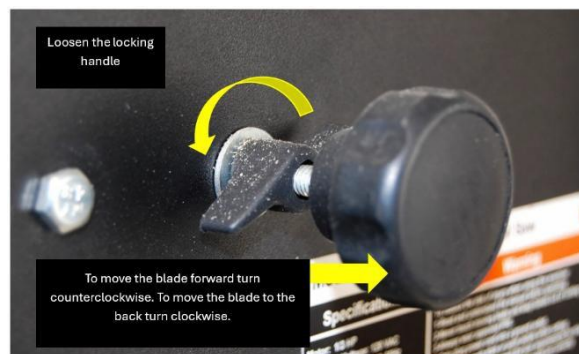

Figure 7: Adjusting the Blade Tracking.
See figure 7 below.
- 3- Loosen the locking knob as shown in figure 7.
- 6- If you want the blade to move backwards turn the knob clockwise. See figure 7 above.